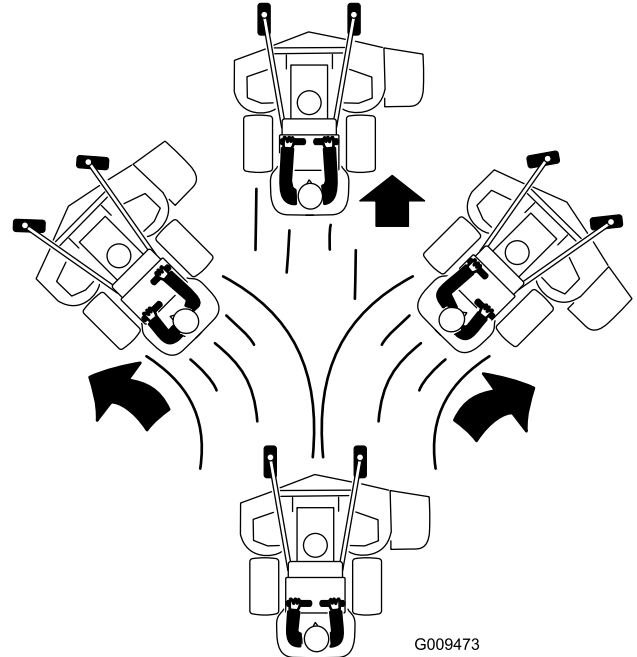

Figure 21
3. Slowly push the motion-control levers forward (Figure 21).